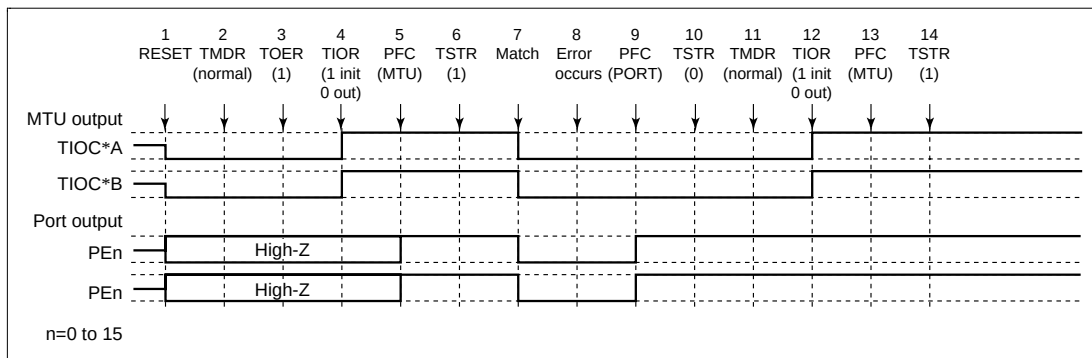

**Figure 12.96 Error Occurrence in Normal Mode, Recovery in Normal Mode**
**Restarted in Normal Mode:** Figure 12.96 shows an explanatory diagram of the case where an error occurs in normal mode and operation is restarted in normal mode after re-setting.
1 to 10 are the same as in figure 12.96.